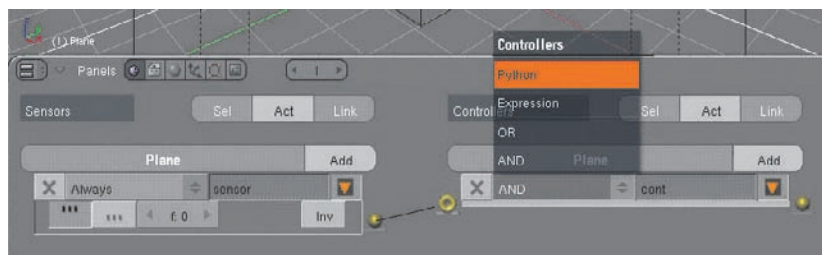
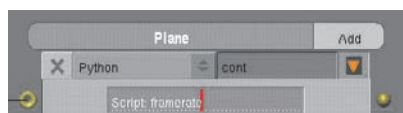

Figure 6.26 Python controllers
Figure 6.27 Enter the script name.
- Now you need to set up the logic blocks to call the code from within the game engine. To do this, you will associate an Always sensor and a Python controller with an object in the game. The plane is a good choice for this. Select the plane and set up the logic as shown in Figure 6.26. Type **framerate** into the Script field, as shown in Figure 6.27.